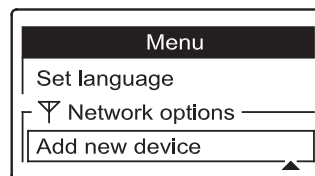

FIG. 101
2. Press the DOWN (▼) button to scroll through the menu options until **Add new device** is highlighted in a box (See Figure 101).
4. When the remote detects a signal from the device, the display will change to show that it has been added to the remote (See Figure 103). If another message appears instead, indicating the device was not added successfully, press the LEFT (◀) button to return to the screen in Figure 101. Repeat Step 3. If this does not work, contact your dealer for service.